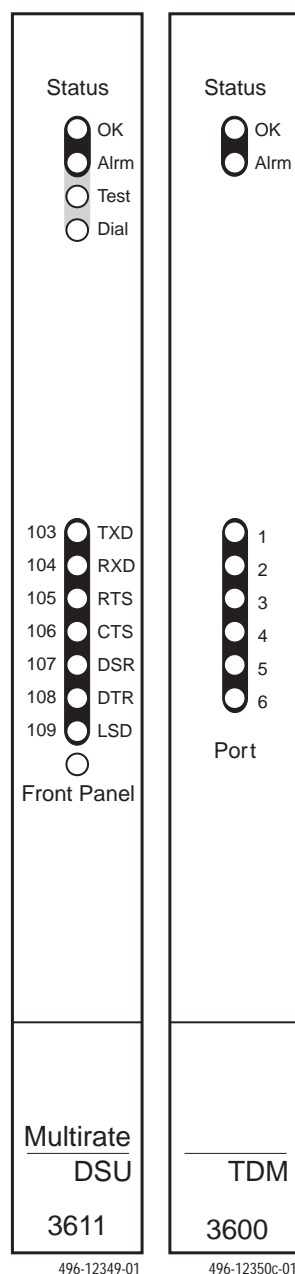

Figure 5-1. Model 3611 DSU and TDM Faceplates
- Faceplate of the Model 3611 DSU (Figures 5-1 and 5-2)
- Faceplate of the TDM or MCMP circuit card (Figures 5-1 and 5-2)
Figures 5-1 and 5-2 show the faceplates of a Model 3611 DSU with the TDM option and a DSU with the MCMP option. The DSU faceplate provides network, DSU, and DTE interface status; the TDM or MCMP faceplate provides additional device status and port-selection information. Table 5-1 describes the function of the TDM and MCMP faceplate indicators.